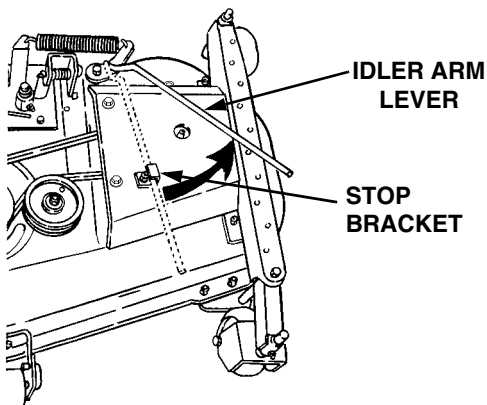

Figure 39
3. Lower the mower deck by moving the implement lift handle to its lowest setting. Disengage the deck idler arm lever from its stop bracket and release the spring tension by rotating the lever out and rearward (See Figure 39).